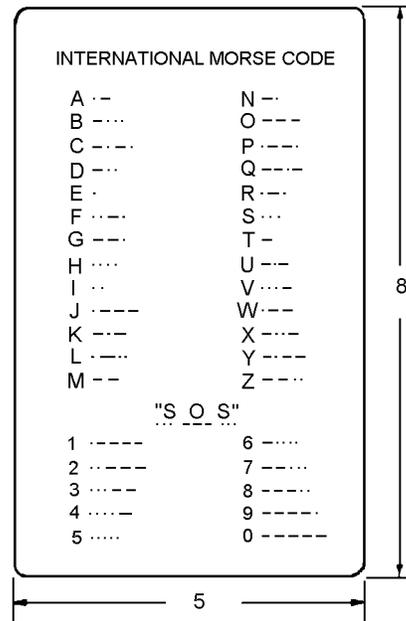

Figure 9-11. International Morse Code Patch
1. ~~Leather~~ markings (see figure 9-11) on ~~uncoated~~ side of patch using black waterproof ink.